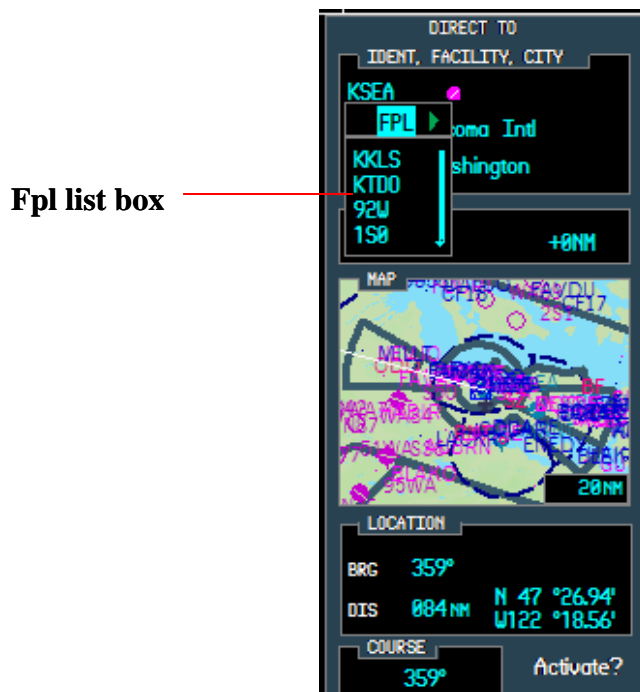

Figure 6.2
- 4.2 click on the left small FMS knob to display a popup box listing the WPTs of the FPL (Figure 6.2).
- 5.3 when the FPL list header is highlighted (see Figure 6.2), click on the right small FMS knob to close the fpl window and open the nearest airport list window (Figure 6.3).